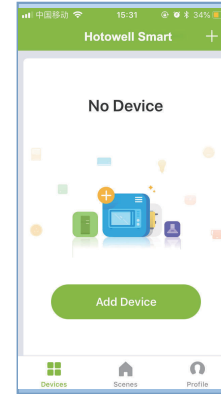

fig 3.1
- Press the "+" on the upper right corner of the page (see Fig 3.1) or "**Add Device**" to add "**Thermostat**".